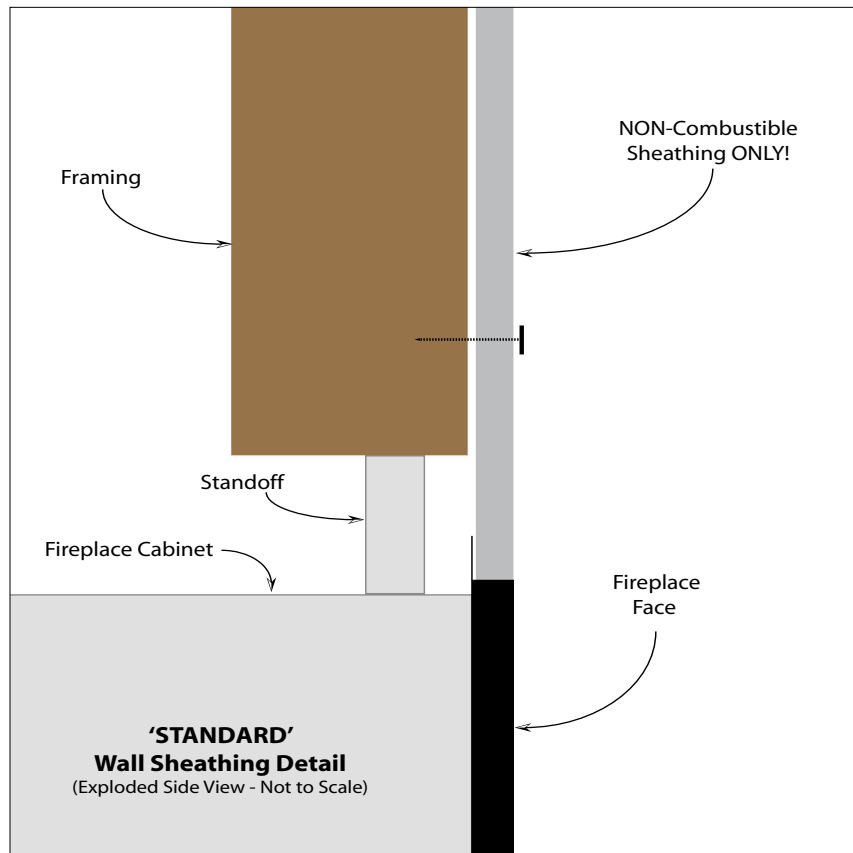

Figure 3
2) When using the **Standard** style (Figure 3) the nailing flange extension is omitted and ONLY NON-COMBUSTIBLE MATERIALS MAY BE BROUGHT TO THE CABINET NAILING FLANGE. With the **Standard** style, all of the black metal fireplace trim can be covered with any of the standard European Home surrounds.